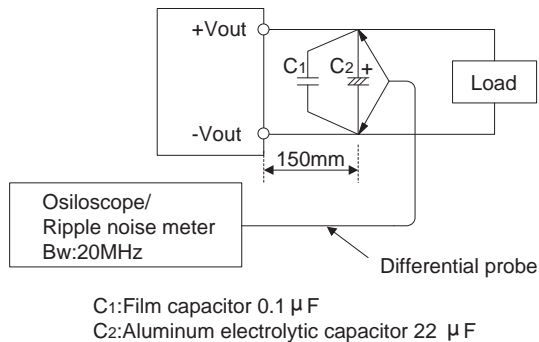

Fig.2.1 Measuring method of Ripple and Ripple Noise
■ Output ripple noise may be influenced by measurement environment, measuring method fig 2.1 is recommended.